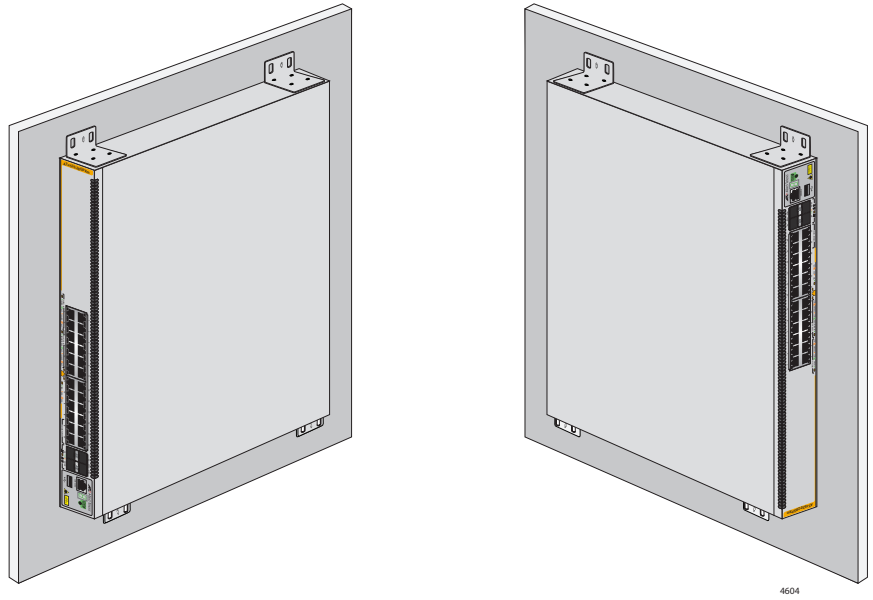

Figure 32. Positioning the x530-10GHXm, x530-18GHXm, x530-28GPXm, x530-52GTXm, or x530-52GPXm Switch on the Wall
- ❑ Install the x530-10GHXm, x530-18GHXm, x530-28GPXm, x530-52GTXm, or x530-52GPXm Switch on a wall with the front panel facing left or right, as shown in Figure 32. Do not install the switch with the front panel facing up or down.